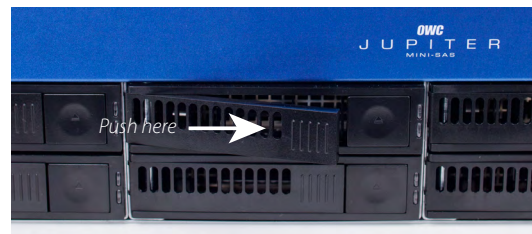

Figure 2.3.1b
4. Once the drive is seated into the backplane, push the handle in until it latches to secure the drive into the drive bay as shown in **Figure 2.3.1b**.